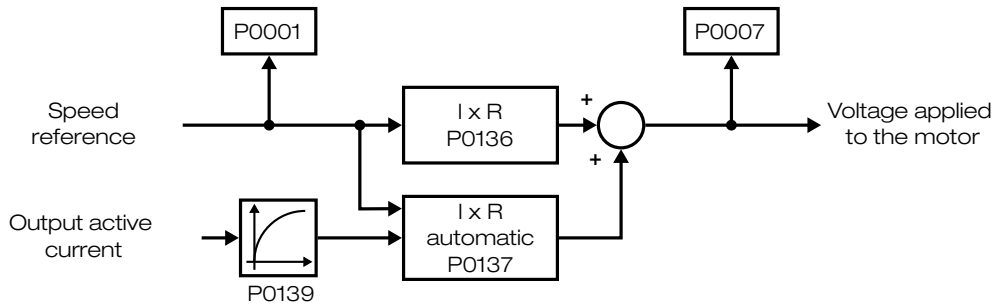

Figure 5.10: Block diagram of P0137
- See Figure 5.10 on page 5-22 and Figure 5.12 on page 5-22.